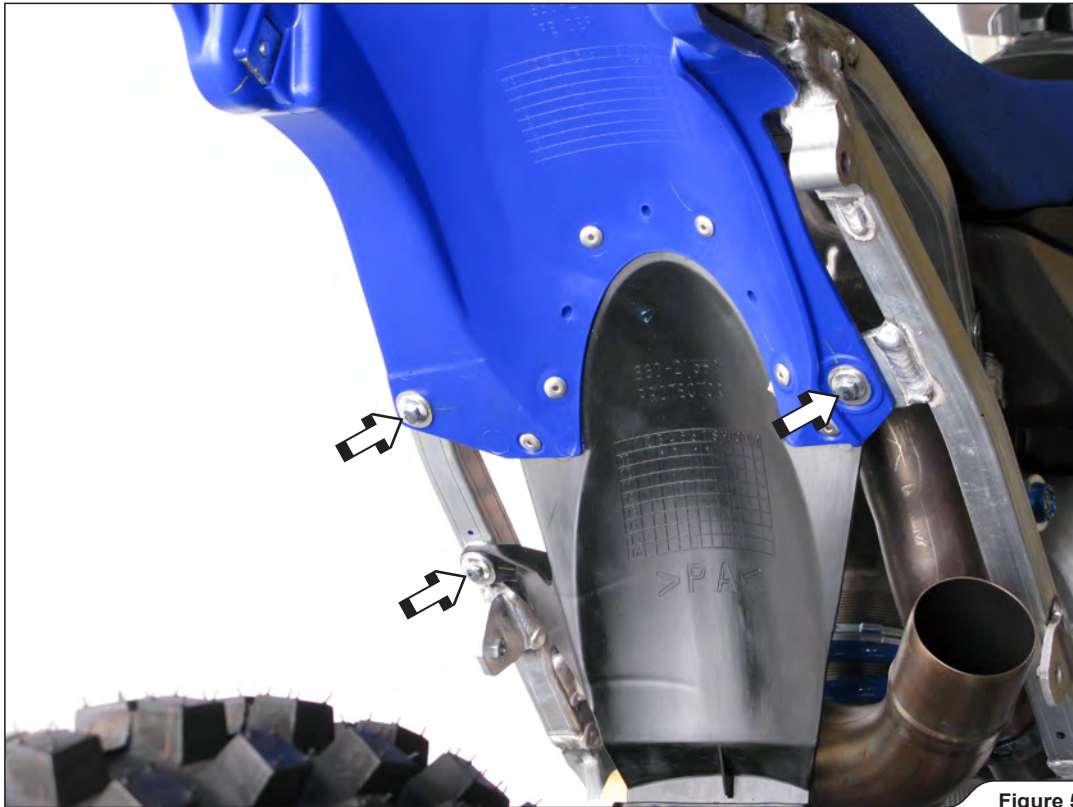

Figure 5
6. Unscrew the marked bolts and partially remove the rear fender (Figure 5).